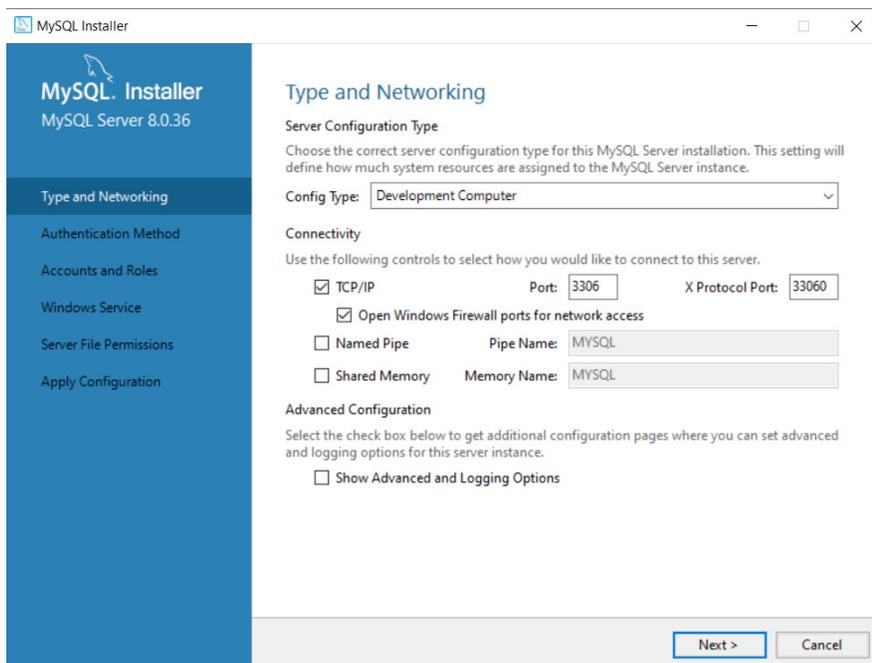

Figure A7
7. On the "Type and Networking" screen, ensure TCP/IP and "Open Windows Firewall ports for network access" are selected and that the port is set to 3306. Click "Next". (Figure A7)